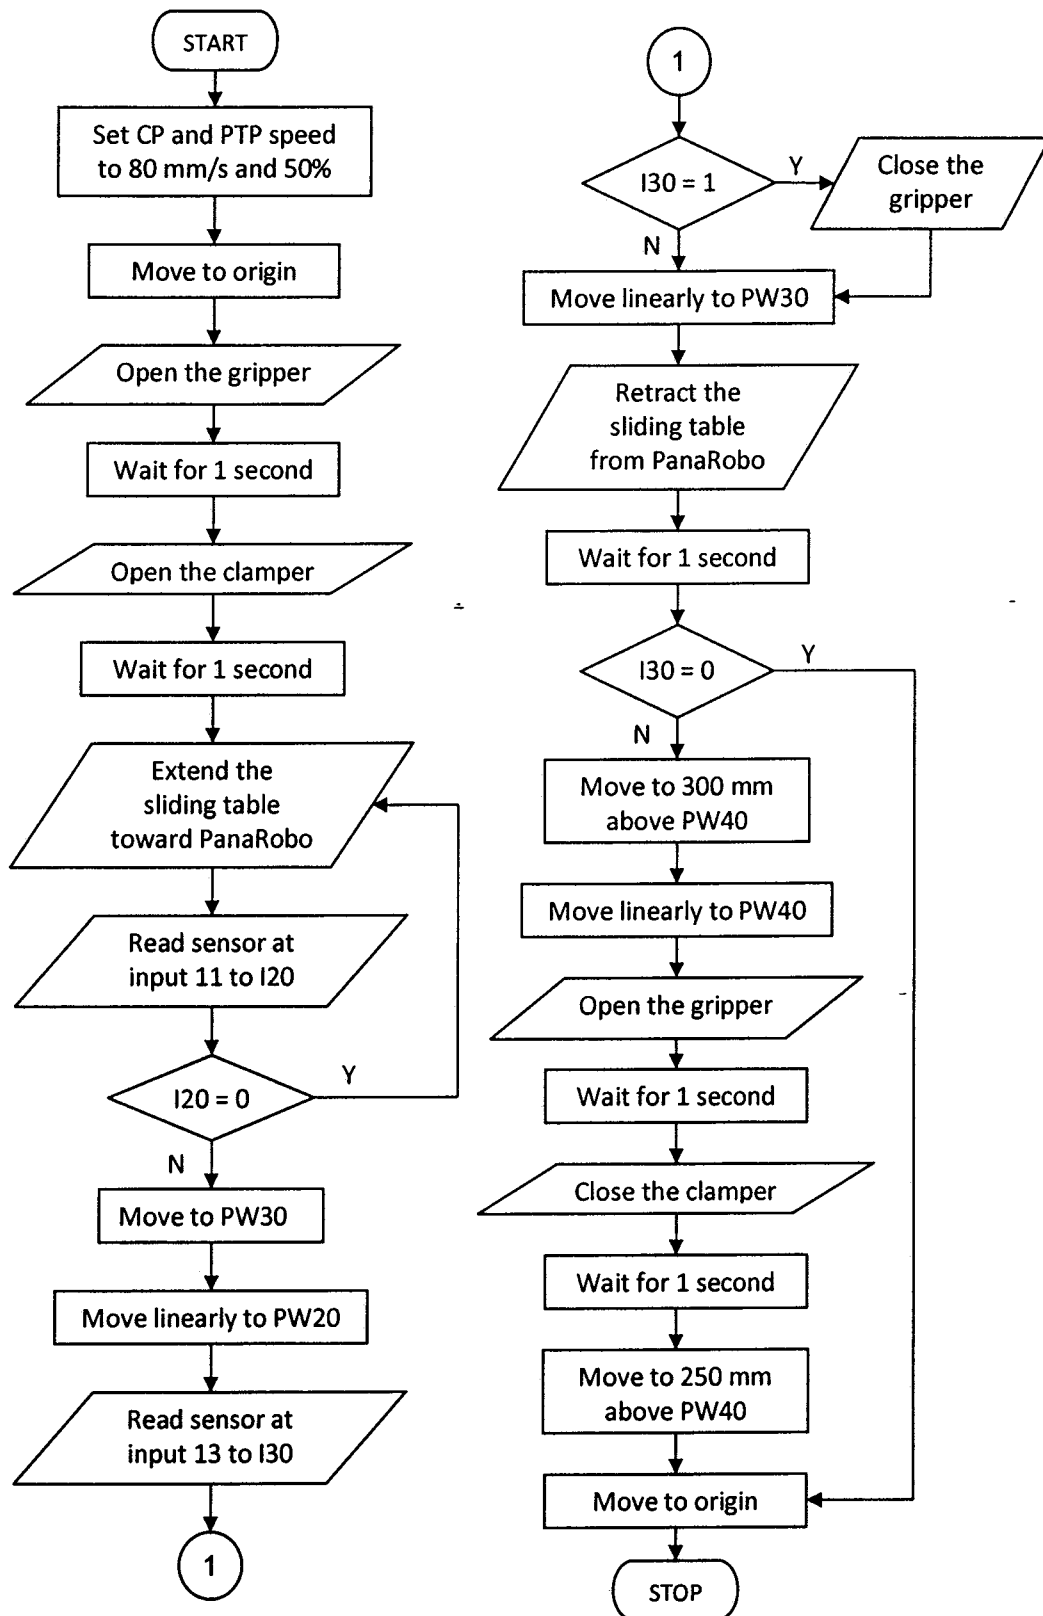

Figure Q1[c]
- [c] The flow chart in Figure Q1[c] shows the task of PanaRobo robot to pick a component from a sliding table and place it on an assembly station. The Output 1, 3 and 7 of the robot are connected to the gripper, clamping cylinder and sliding table cylinder respectively. The input 11 and 13 of the robot are connected to the magnetic sensor at the sliding table pneumatic cylinder and the optical sensor at the gripper respectively. Write a program for the robot according to the given flow chart.**